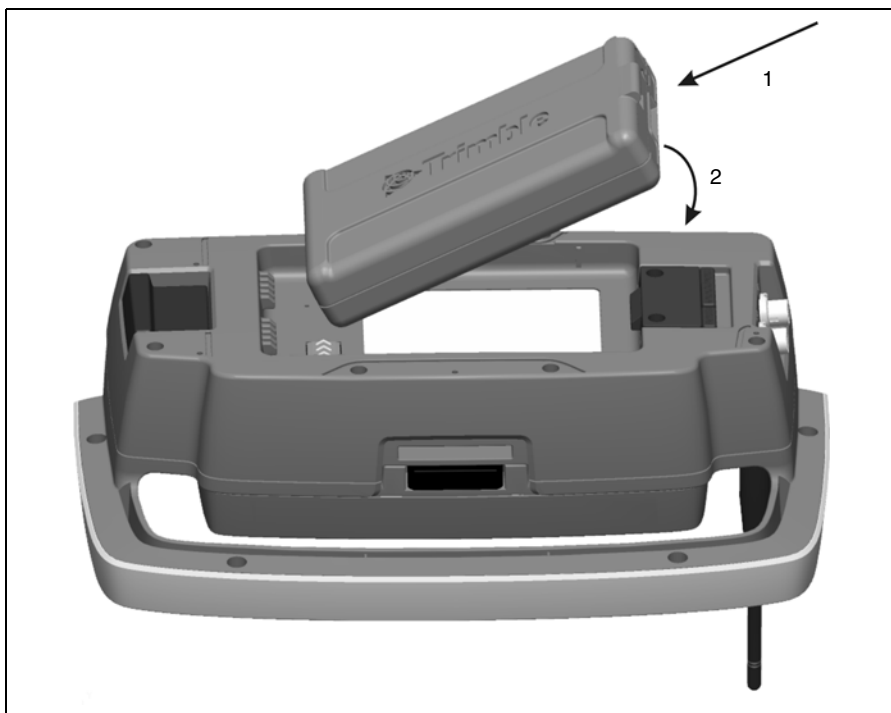

Figure 7.71 Attaching a battery to the Trimble Robotic Holder
1. Fit the battery on to the hooks on the holder (1).
2. Push the battery on to the holder until it clicks into place (2). See figure 7.71